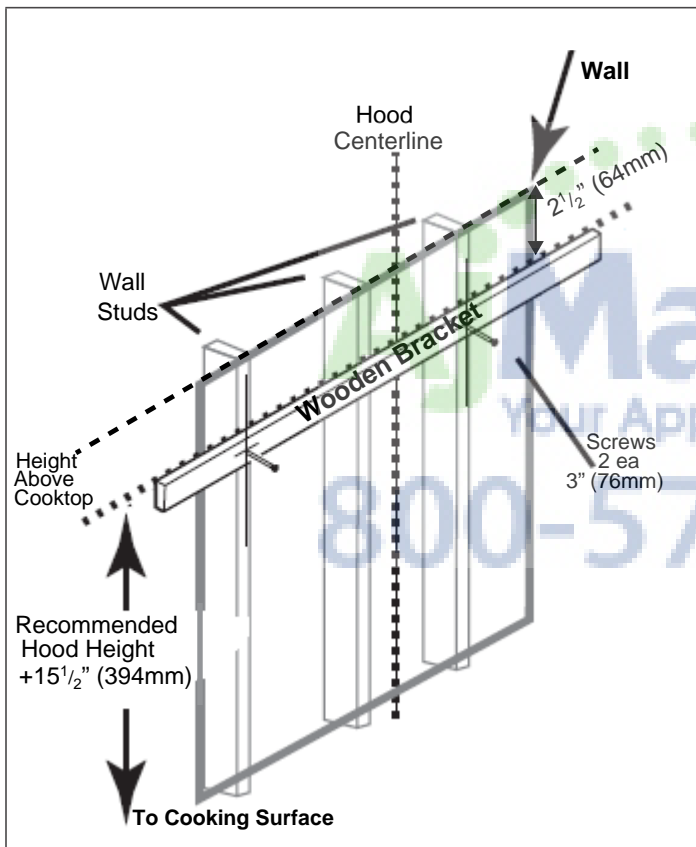

Figure 6: Mounting the Wooden Bracket
4. Locate a stud on both sides of the hood centerline to use for mounting the wooden bracket as shown in Figure 6.